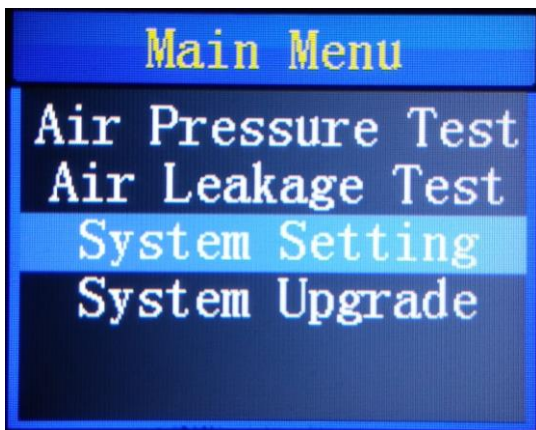

Figure 1
1. Enter into the **Main Menu** and use the UP/DOWN button to select **System Setting** (Figure 1), confirm your selection with ENTER.